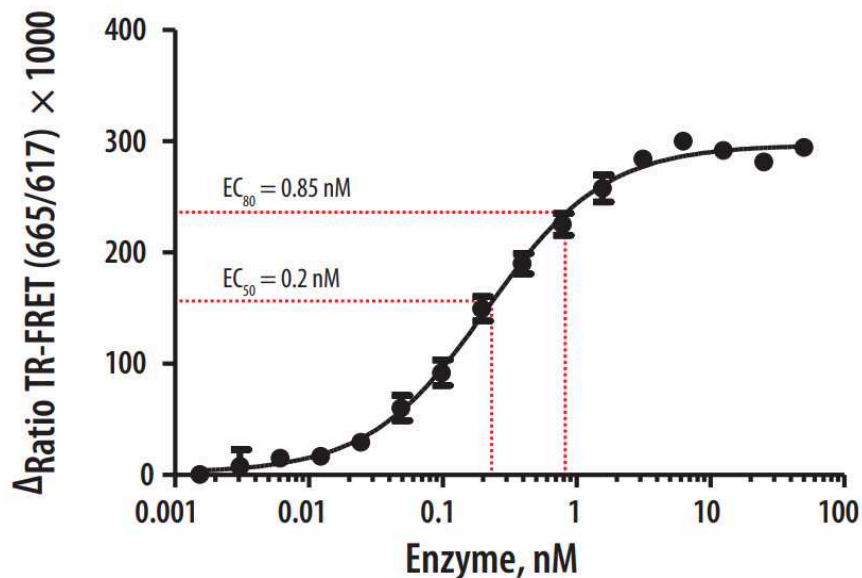

Figure 3. Enzyme titration curve. Based on this curve, the optimal enzyme concentration would be 0.85 nM.
determined by serial titration, using the same conditions that will be used for screening or profiling. We recommend an enzyme concentration that produces 50–80% of the maximal change in FRET (EC₅₀ to EC₈₀; see **Figure 3**).
7. Plot the ratio of 665/617 nm on the Y axis vs. the enzyme concentration on the X axis. Use 4-parameter fit to determine the EC_{50} value as shown in **Figure 3**.